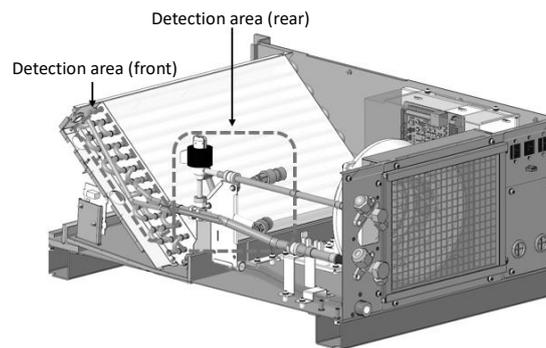

Figure 7-6 Detection Area in VRC202 (Rear)
3. Insert the sniffer into the VRC202 unit to check whether the refrigerant leaks in the areas in **Figure 7-6**. Check detection area (front) and detection area (rear) from the front and rear of the VRC202 unit, respectively.